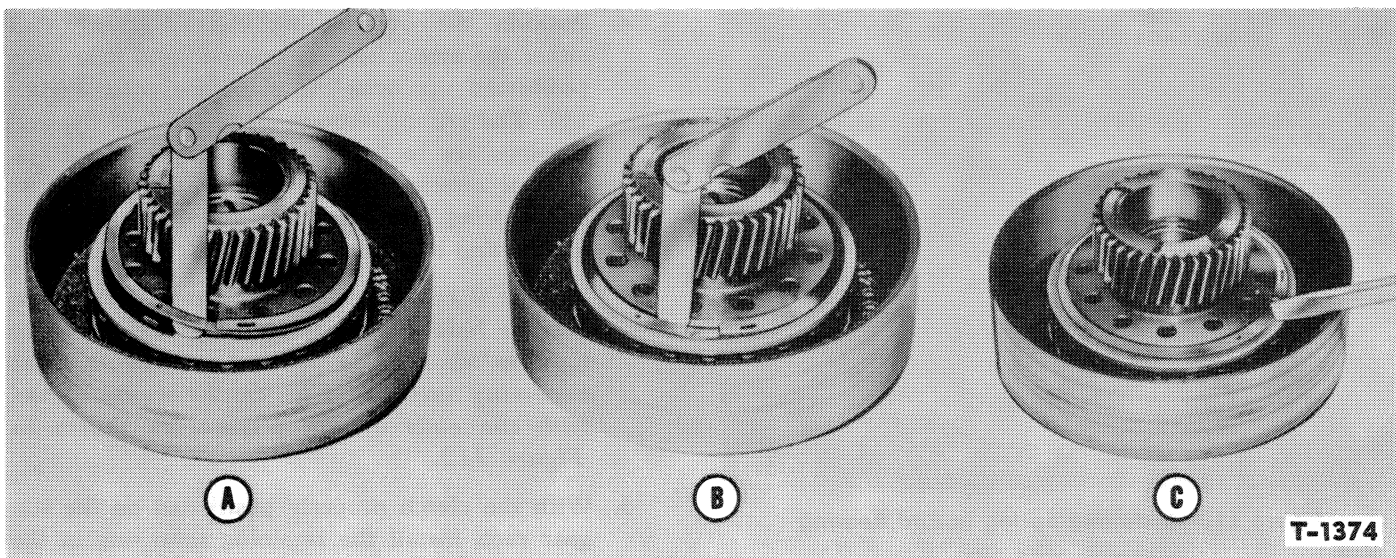

Figure 113—Installing Overrunning Clutch Retaining Snap Ring
The overrunning clutch is secured to the "A" sun gear and drum assembly, as shown in Figure 113.
- a. Thread one end of the ring into the groove, holding the offset and opposite end of the ring out of the groove with 0.015-inch feeler stock. See A, Figure 113.
- b. Lock the upper free end of the ring to the center portion of the ring by lining up and inserting the stamped projection into the elongated slot. See B, Figure 113.
- c. With the drum firmly held, remove the feeler stock and snap the rest of the ring into the groove using a screwdriver, as shown at C, Figure 113.